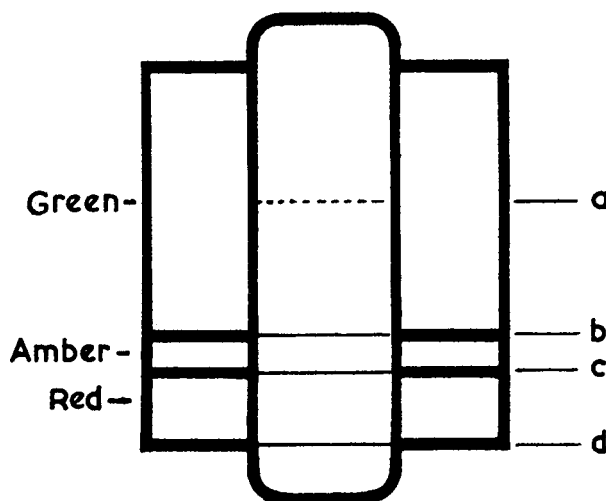

Fig. 3. INDICATOR SCALE
The indicator is a small cathode ray tube mounted behind a rectangular mask. The face of the indicator is divided into three parts (Fig. 3) corresponding to the red, amber and green sections on the vertical coloured scales.
- (vi) Set the instrument to the mains supply by bringing the spot as nearly as possible on to the dotted line *a* (Fig. 3) by rotating the mains adjust switch.
- (b) With the selector switch in position 6 the spot should come to rest on the zero or base line *d* (See Fig. 3).
As signal diodes will give satisfactory service even when their emission is relatively low, a slightly different meaning is given to the colours on the scales when a signal diode is being tested for emission. For test 6 a deflection of the spot anywhere above line *c* (Fig. 3) shows that the signal diode is satisfactory.
It is important to remember that the dotted line *a* (Fig. 3) in the green section of the scale is only to be used for the mains adjustment; it should not be used as a reference line for comparing the performance of two different types of valve. This restriction applies also to valves of the same type, since for matching purposes more than one point on the characteristic curves of the two valves would need to be checked.